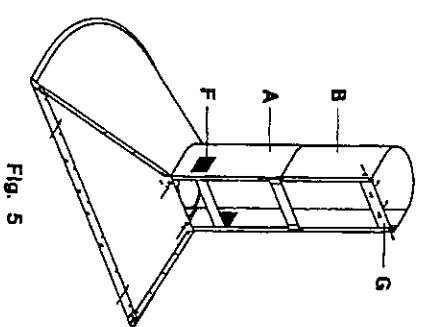

Fig. 5
- Next, secure support G to the upper end of wall, making sure that it is properly aligned with the extendible tube. Extend the movable part of tube B until it reaches support G and connect to the support with the two side screws. (Fig.5)